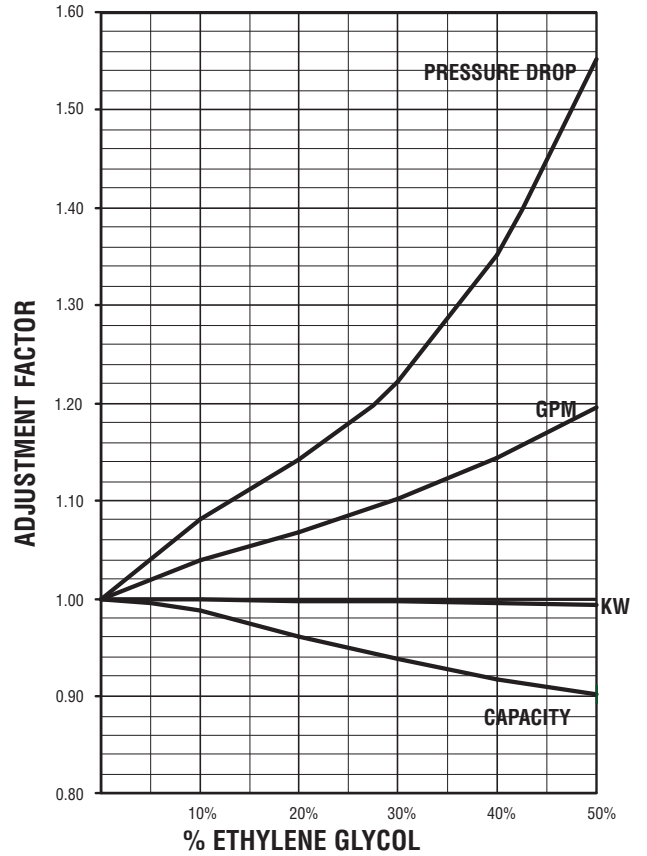

Figure 3. Ethylene Glycol Adjustment Factors
Ethylene Glycol adjustment factors (**Figure 3**) should be used to adjust performance depending on the percent of glycol used in the evaporator circuit. The factors in Table 3 are based on a 10°F change in fluid temperature through the evaporators.
3. To convert performance for water to performance with Ethylene Glycol, read adjustment factors from **Figure 3** at 30% Glycol.